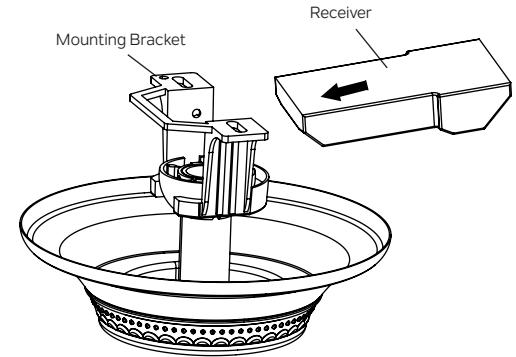

Fig. 13
**Step 1.** Insert the receiver into the mounting bracket, and keep flat in opposition of ceiling. (Fig.13)